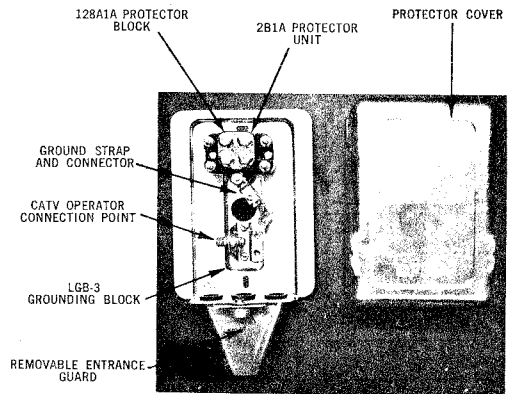

Fig. 5 - Protector QPL3A
2.06 *The QPL3A Protector* is an outside wall mounted protector (Fig. 5) consisting of a 128A1A-2 Two Station Protector and a coaxial